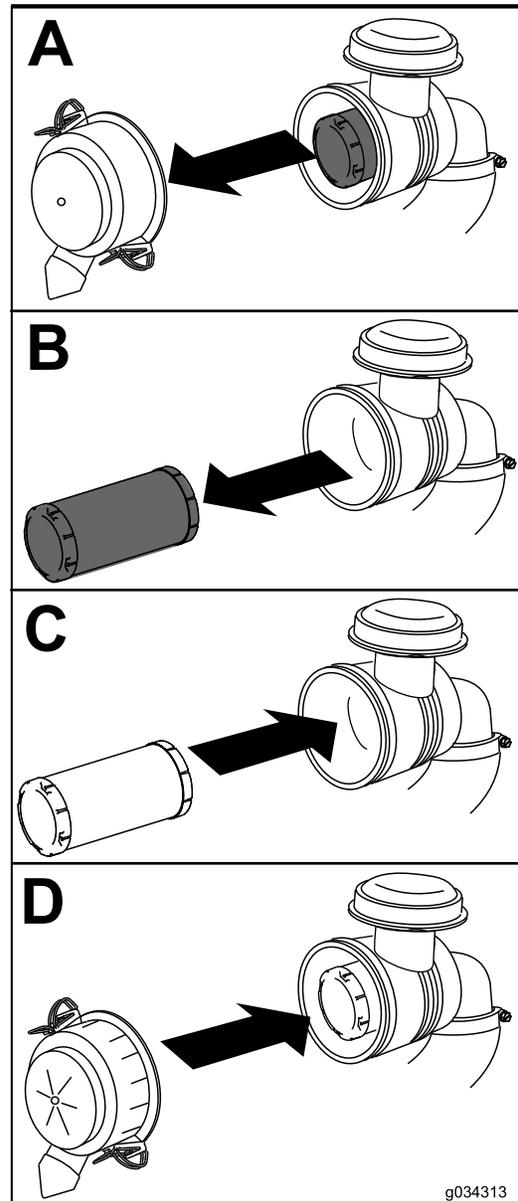

Figure 36
4. Install the air-cleaner cover with the side indicated as “UP” facing upward and secure the latches (Figure 36).
1. Gently slide the air filter out of the air-cleaner body (Figure 36).